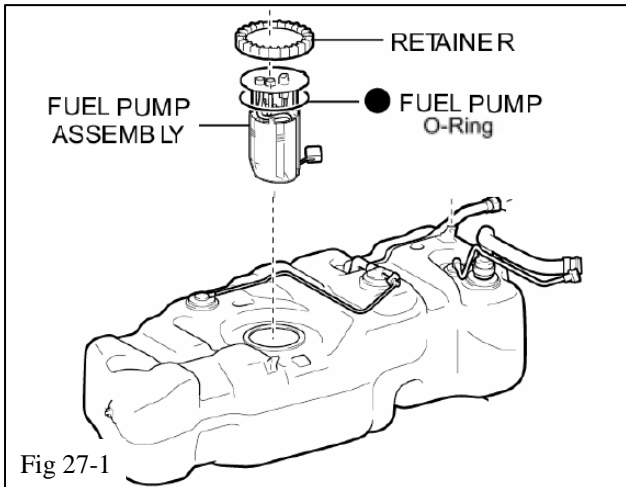

Fig 27-1
- (b) Make sure you use the new Fuel Pump module O-Ring (J1) supplied in the kit when installing the fuel pump assembly into the fuel tank as shown. (Fig. 27-1).
(h) Place the new vacuum and belt routing label (H8) on an open area under the hood (Fig 28 1). **DO NOT cover the original vacuum hose label.** Place the CARB OE Emissions label (H9) near the vacuum and belt routing label (Fig 27-1). Clean the area of any dirt and contaminants before adhering the labels.